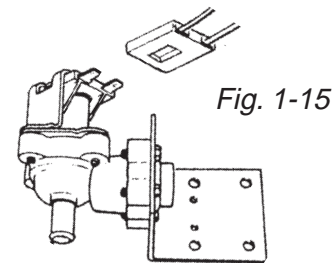

Fig. 1-15
4. Disconnect the wiring harness connector from the water inlet valve terminals. (Fig. 1-15)